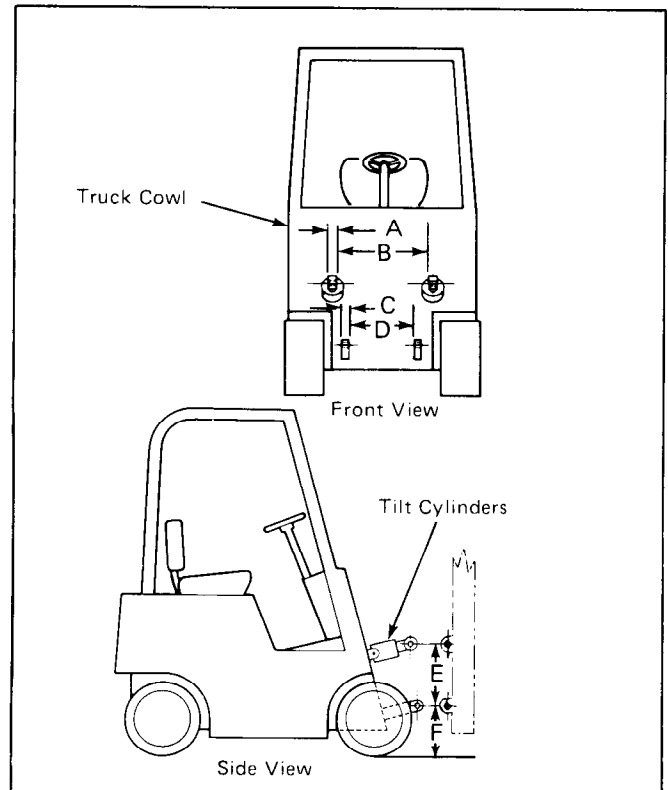

Figure 1. Determining Mounting Bracket and Crossmember Location.
1. If it is necessary to install mounting brackets and crossmembers to fit your truck, consult with the nearest Cascade Service Department listed on the back cover. You must supply dimensions **A** through **F** shown in Figure 1. Failure to install the correct brackets and crossmembers can result in mast structural failure, bodily injury and loss of warranty.